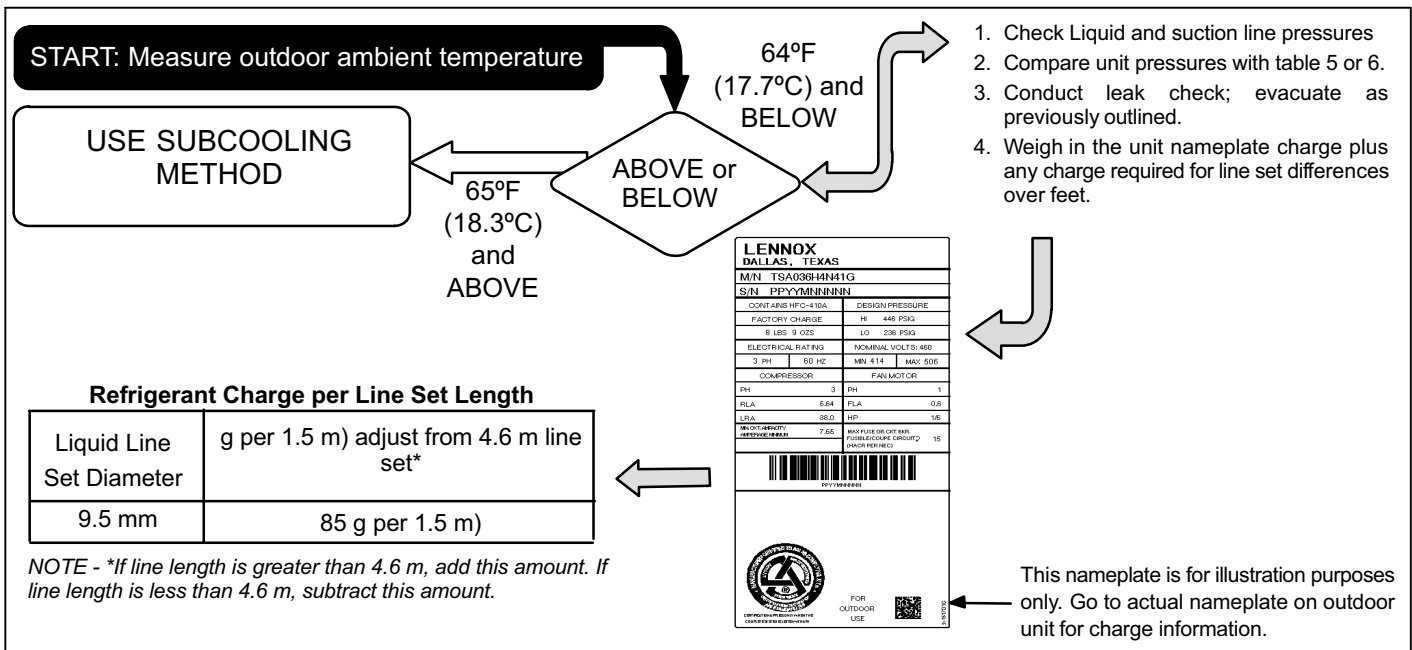

Figure 20. HFC-410A Weigh In
5. Weigh in refrigerant using procedure outlined in figure 20.